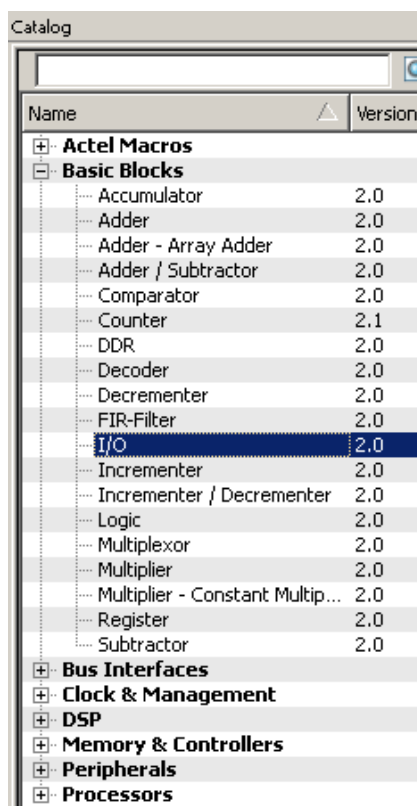

Figure 9-2 • SmartGen Catalog
2. On the left-hand side of the Catalog View, select **I/O**, as shown in Figure 9-2.